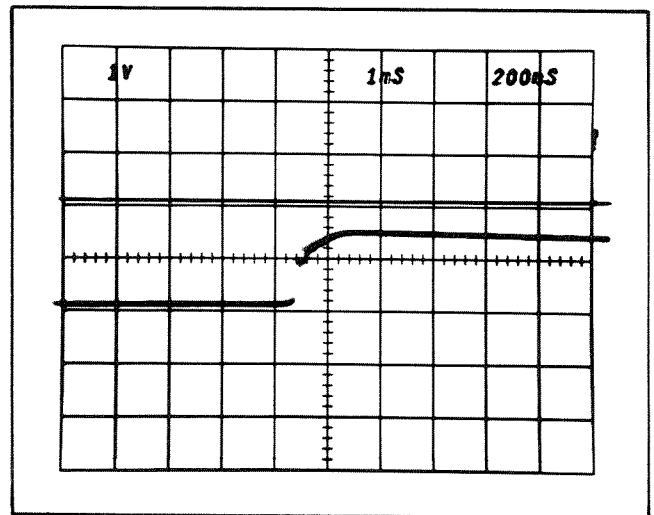

Fig. 5-11. CRT display showing delay time jitter.
c. CHECK—Jitter on the leading edge of the pulse does not exceed 1 division (1 part in 50,000 of 10 times the TIME/DIV setting). See Fig. 5-11. Disregard any slow drift.